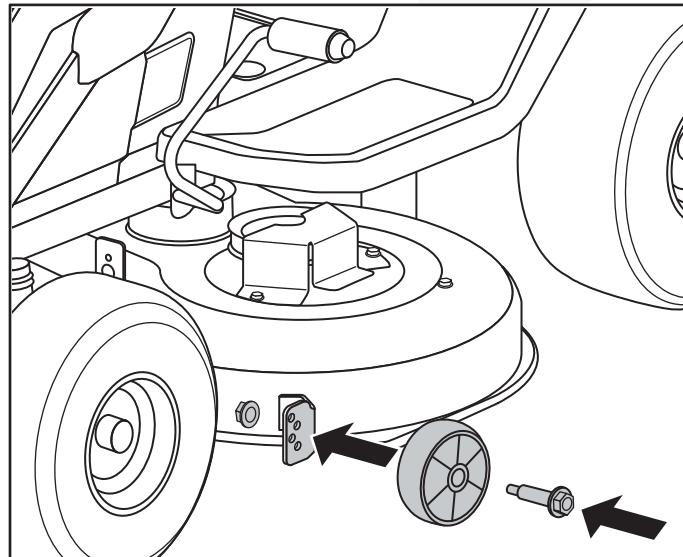

Fig. 6
1. Secure the left anti-scalp wheel with the bolt and nut provided to a torque of 22-26 ft-lbs. (Fig. 6)